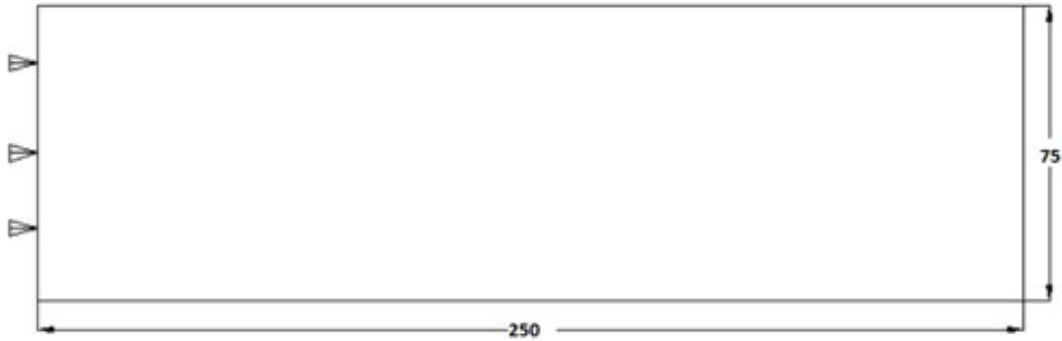

Figure 8
8. Find the various modes of frequencies for the given 2D component in Figure 8. All dimensions are in mm.